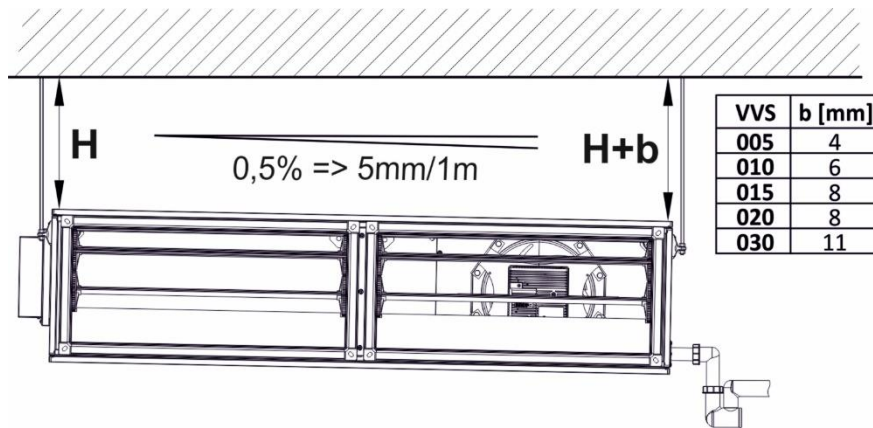

Fig.6a Levelling of the recovery section
4. All units must be installed level – only the recovery section with counter - flow heat exchanger must be installed with a 0.5% drop in the direction of the drain pipe (fig.6a)